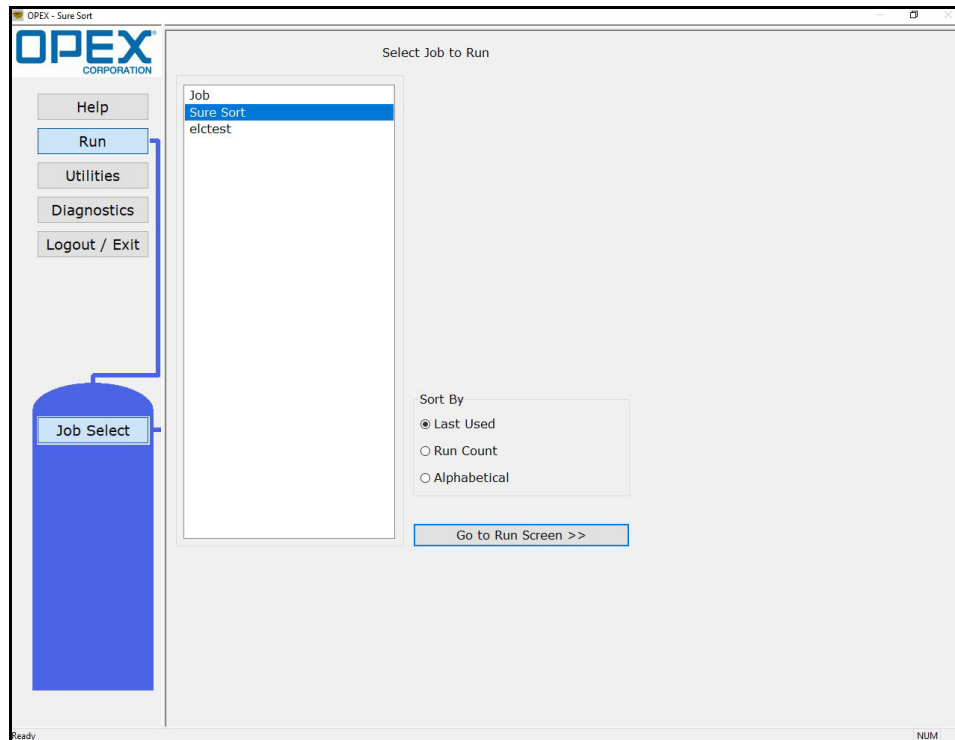

Figure 4-39: Host Software - Main Interface
3. The Main Interface window appears (see Figure 4-39).